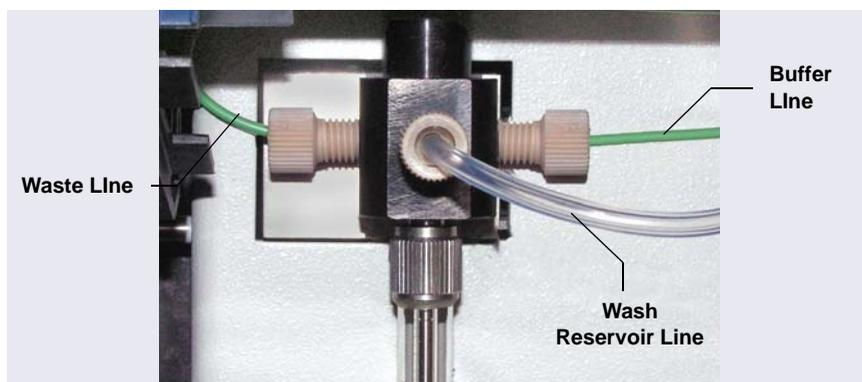

Figure 3-1. Syringe Valve Connections
1. Verify that all liquid lines to the syringe valve are connected (see Figure 3-1). Check for fluid around the fittings, indicating leaking. If needed, finger-tighten the fittings a little further.